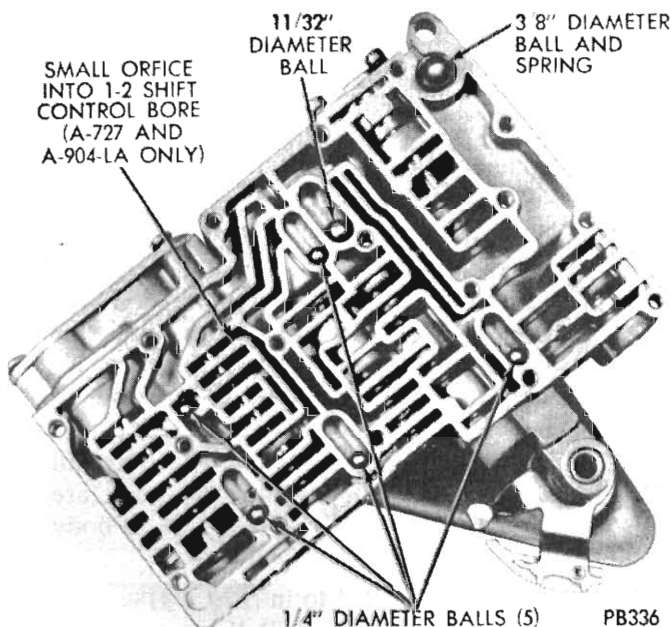

Fig. 53 - Steel ball locations
(4) Remove the 7 balls and spring from valve body shown in (Fig. 53).
Make sure orifice referred to in (Fig. 53) is open by inserting a 1/32 in. dia. drill through it into the 1-2 shift control valve bore.
(1) Install the spring and seven balls in the valve body as shown in (Fig. 53).